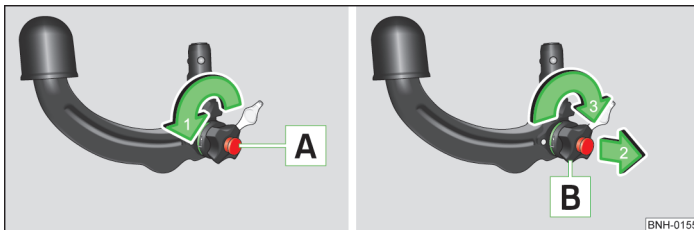

Fig. 6 Set stand-by position
- Turn the key **A** in the direction of the arrow 1 to the stop» Fig. 6.